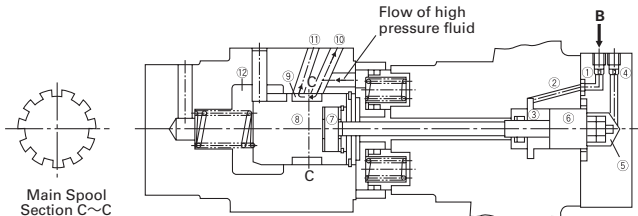
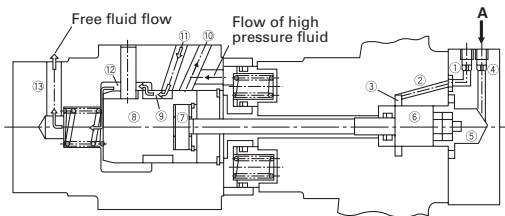

Fig. 2
Fig. 3
Fig. 2 shows a case of large displacement.
The groove 9 on the main spool comes to the position shown in Fig. 2. With this movement of the main spool, the high pressure fluid coming from the main port flows into both passages of 10 and 11 and exerts force on the right and left pistons, thus working as a large displacement motor.
Fig. 3 shows a case of small displacement.
The groove 9 on the main spool comes to the position shown in Fig. 3. With this movement of the main spool, the high pressure fluid coming from the main port flows only to the passage 10, exerting force only on the right pistons thus working as a small displacement motor.
- In order to maintain the maximum bearing life, when a radial load is imposed on the output shaft the motor should be installed as illustrated in Fig. 2 or Fig. 3.
For a uni-directional application, motor should be installed so that side load acts as shown in Fig. 2.
For a bi-directional application, a radial load for each rotational direction being applied, the motor should be installed so that side loads act as shown in Fig. 3.
- When motor is used in Meter-Out circuit, pressure in Fig. 2 & 3 shaft be a sum of motor inlet and outlet pressure.